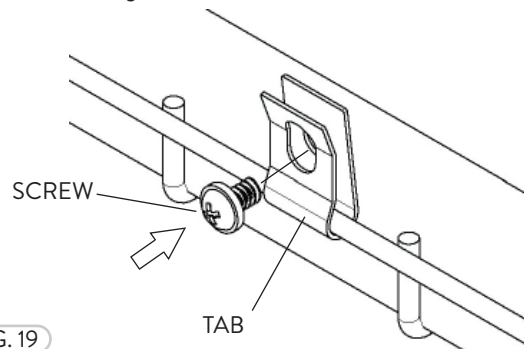

FIG. 19
- 2 Use the (four) formed Tabs to fasten the Wire Guard onto the FLHB Fixture. This is done by using the (four) holes located on the sides of the fixture (Fig. 19).